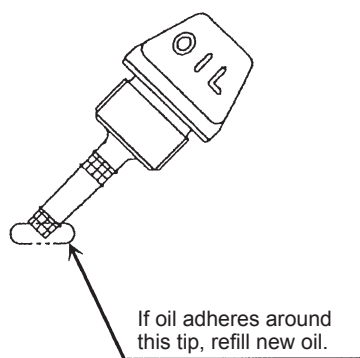
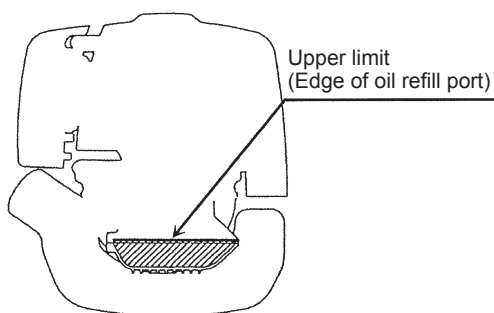

Fig. 1
Fig. 2
- While keeping the engine level, remove the oil gauge, and confirm that the oil is filled within the upper and lower limit marks. When the oil is in short in such a way that the oil gauge touches the oil only by its tip, in particular with the oil gauge remaining inserted in the crankcase without screwing-in (Fig. 1), refill new oil near the port (Fig. 2).
- (1) Keep the engine level, and detach the oil gauge.
- (2) Fill oil up to the edge of the oil refill port. (Refer to Fig. 2 of the preceding page).